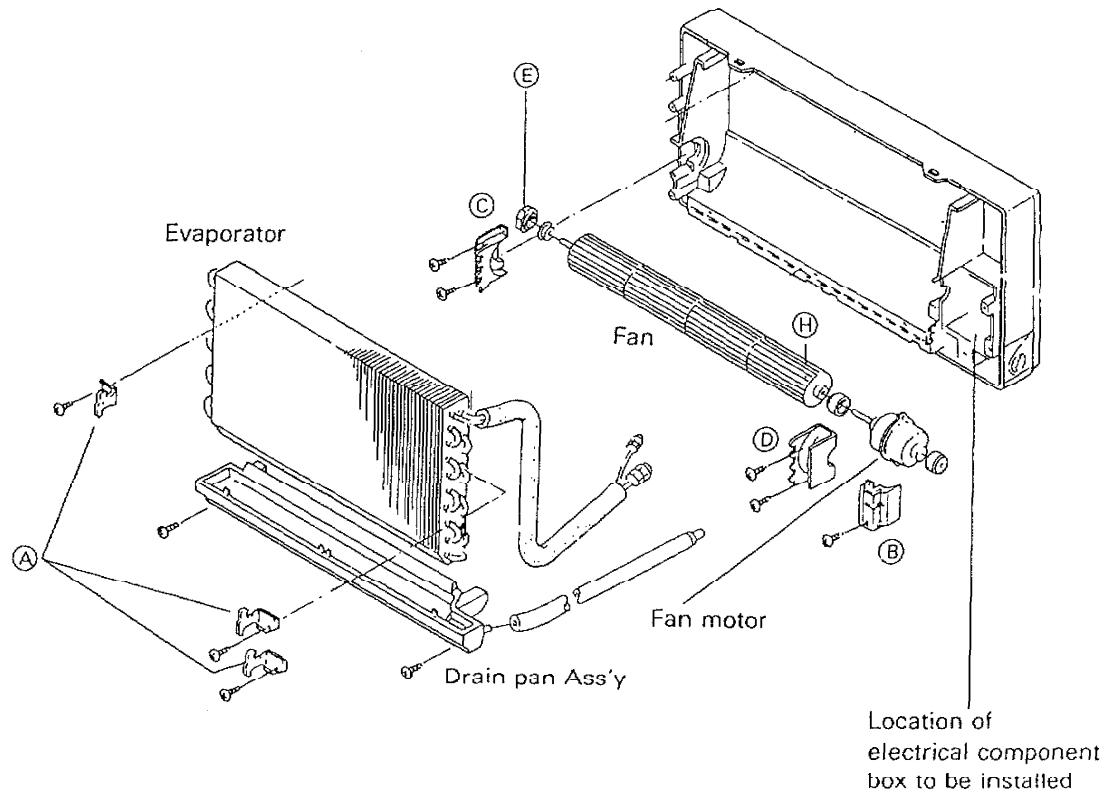

Fig. 7
- 1) As shown in Figs. 7 and 8 loosen the screws of the plastic mounting plates **(C)** and **(D)** (and **(F)**) : KM1812W/KM1812X which secure the fan, using a Phillips screwdriver, then remove the fan and fan motor.